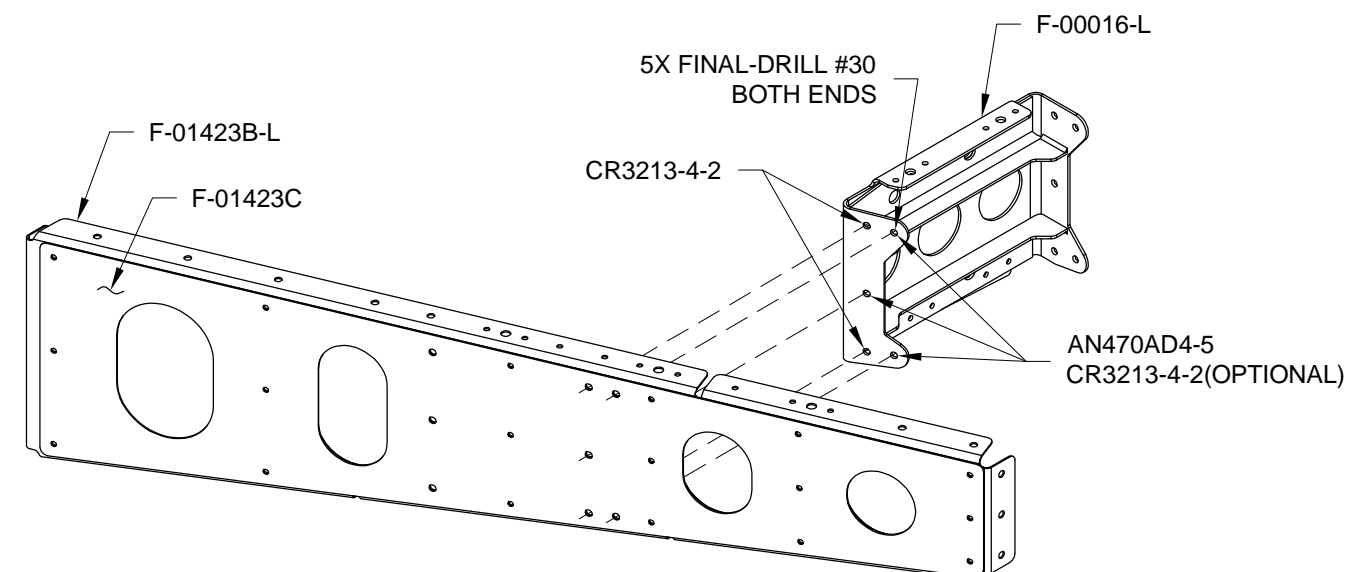

FIGURE 3: LEFT STEP ATTACH ASSEMBLY
Step 6: (Tri-Gear Only) Cleco the F-00016-L Step Attach Weldment to the F-01423B-L Outboard Baggage Rib as shown in Figure 3.
Step 7: (Tri-Gear Only) Final-Drill #30 the holes in the F-00016-L as shown in Figure 3.
Step 8: (Tri-Gear Only) Rivet the left and right step attach weldments to the left and right outboard baggage ribs as shown in Figure 3.